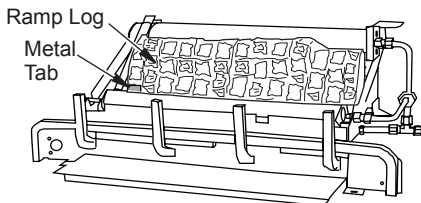

Figure 25 - Installing Fiber Ramp Log
- Place fiber ramp log in center of chassis as shown in Figure 25, page. The fiber ramp log can be identified by the shape and much lighter weight when compared to the other logs. The log must sit flat on the black sheet metal and behind the left metal tab as shown. Make sure the side marked "BOTTOM" is setting down.